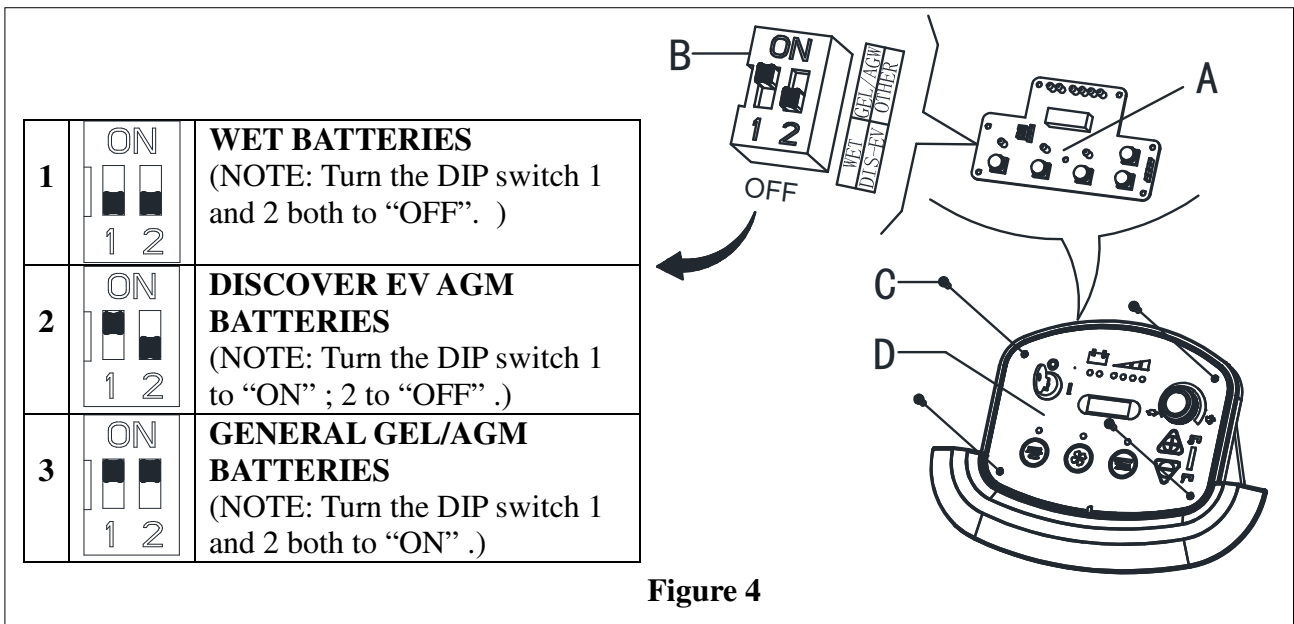

Figure 4
When install new batteries please refer to figure 4 to adjust the DIP switches. Otherwise the batteries may be damaged.
1. Turn the ignition key (35) to “I” and in the very first seconds of machine operation pay attention to the following:
- If the first green warning light (38) is flashing, the machine is set to GEL/AGM.
- If the yellow warning light (37) is flashing, the machine is set to Discover EV AGM.
- If the red warning light (36) is flashing, the machine is set to WET.
4. Remove the screws on control panel (C, Figure 4), then turn over the PCB (A Figure 4)to find the DIP switch (B,Figure4) for setting battery type(WET or Discover EV AGM or GEL/AGM), (Refer to 1 or 2 or 3).